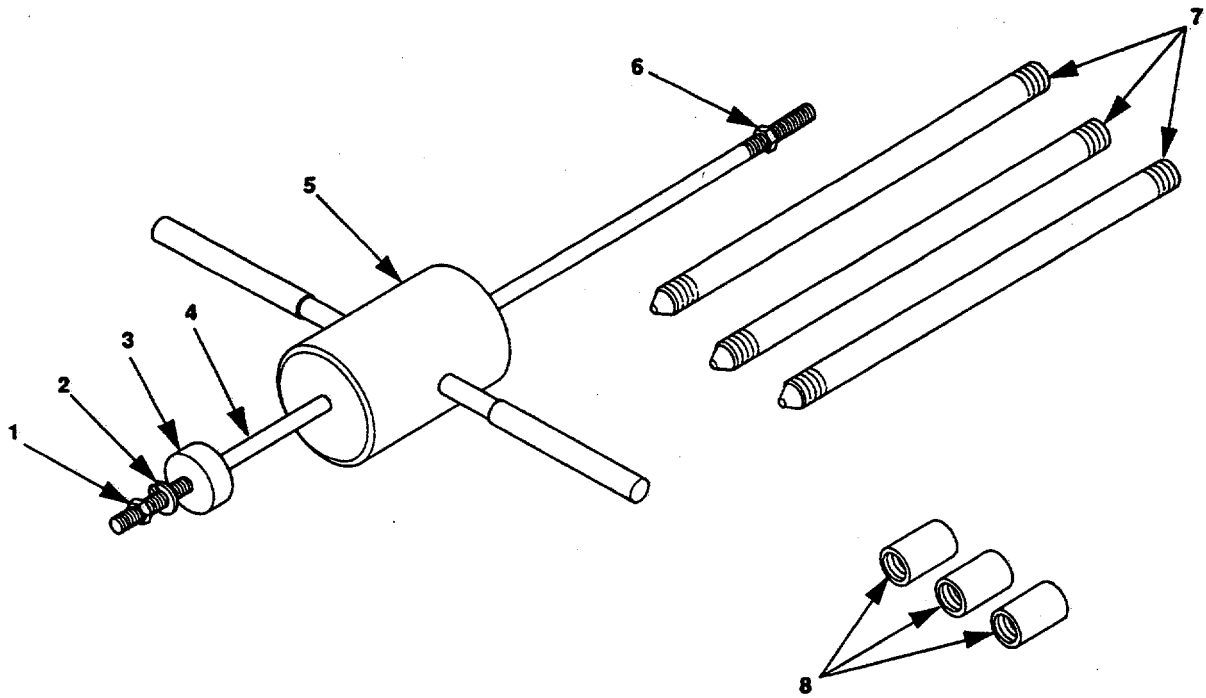

Figure 2-15. Ground Rod, Grounding, and Slide Hammer Disassembly.
- (6) Remove slide hammer (5, figure 2-15) from accessory box.
- (7) Install impact disk (3) on rod (4). Tighten impact disk to end of threads on rod.
- (8) Install lock washer (2) and nut (1). Tighten nut and lock washer securely against impact disk.
- (9) Position hammer (5) on rod (4). Install nut (6) and tighten to end of threads on rod (4).
- (10) Connect slide hammer (9) end to ground rod coupler (7).
- (11) Using slide hammer, pull ground rod out of the ground until the second coupler is exposed.
- (12) Disconnect top ground rod section from second ground rod coupler (7).
- (13) Disconnect slide hammer (9) from top of ground rod section.
- (14) Repeat steps 7 through 10 for the second and third ground rod sections.
- (15) Remove couplers (7) from each ground rod section (8).
- (16) Clean ground rod sections (8) and couplers (7).
- (17) To disassemble slide hammer, remove nut (6, figure 2-15) from end of ground rod (4) and retain.
- (18) Remove hammer (5) from rod and thread nut (6) on end of rod to prevent loss.
- (19) Store hammer and rod with assembled parts in accessory box.